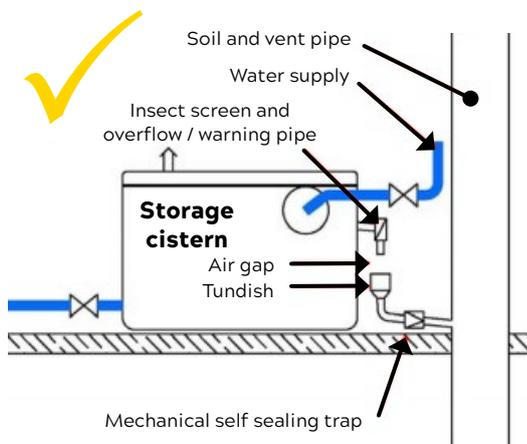

Figure 12: How to install an overflow discharging into a soil and vent pipe
- A self closing mechanical seal is often the best method of protection (see Figure 12).